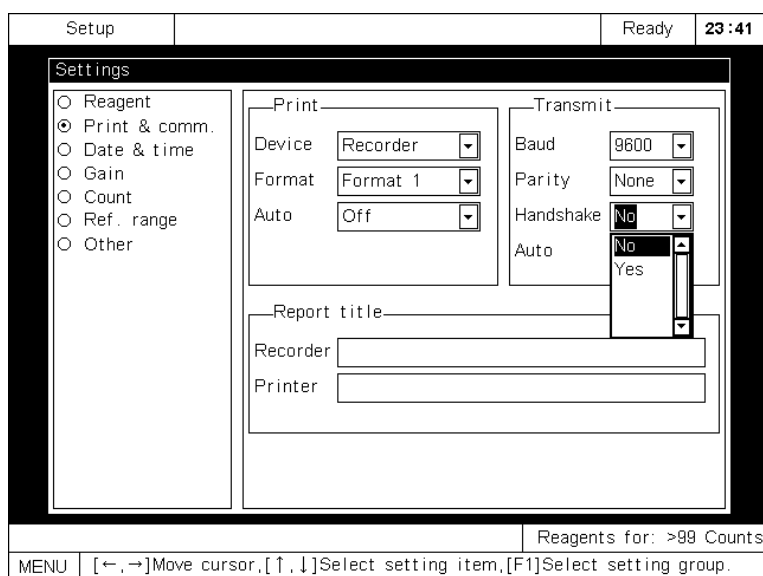

Figure 7-16 Setting handshake
- Press [] or [] to move the cursor to the combo box right of **Handshake** in the **Transmit** field. Press [ENTER] to display the pull-down menu, as Figure 7-16 shows.